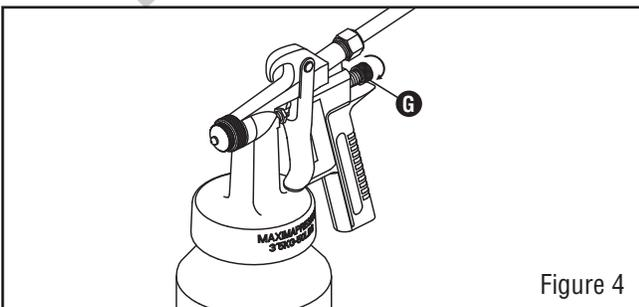

Figure 4
- Turn the fluid adjustment knob (G) fully clockwise until closed. (See Figure 4)